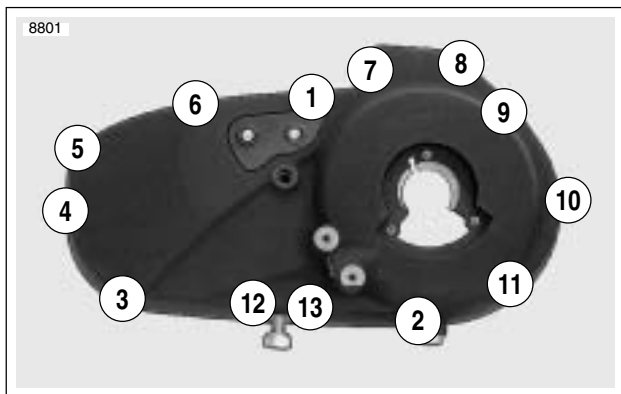

Figure 6-3. Primary Cover Tightening Sequence
4. See Figure 6-3. Tighten fasteners to 80-110 **in-lbs** (9-12.4 Nm) in sequence shown.